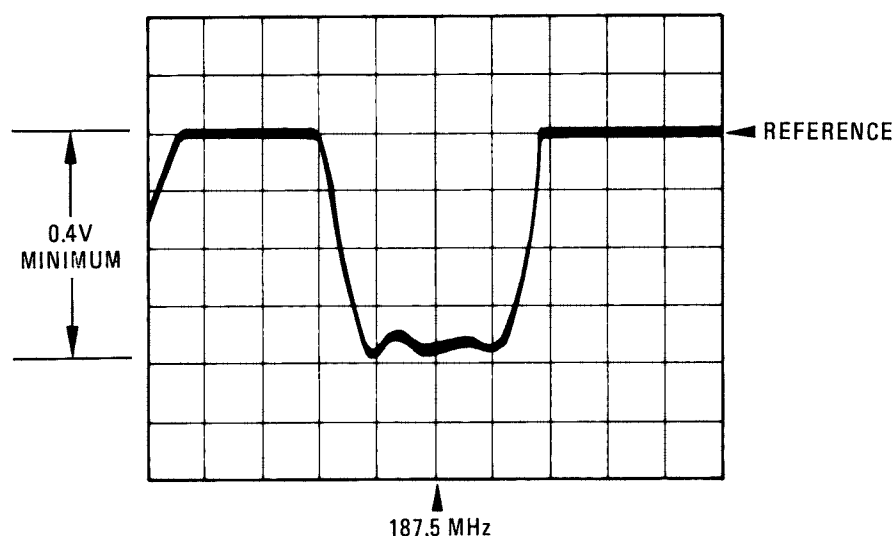

Figure 5-53. Typical Swept Frequency Response at A11A5TP1
13. Adjust A11A5 IMPEDANCE MATCH adjustments A11A5C1 and A11A5C2 (using an insulated adjustment tool) for an oscilloscope display similar to that in Figure 5-53. Tune for maximum negative voltage and flatness over the center area of the display. Deviation from reference to maximum negative voltage should be at least 0.4 volts.